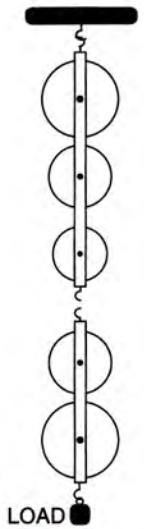

Fig. 3.32
5. In Fig. 3.32, draw a tackle to lift the load by applying the force in the downward direction.